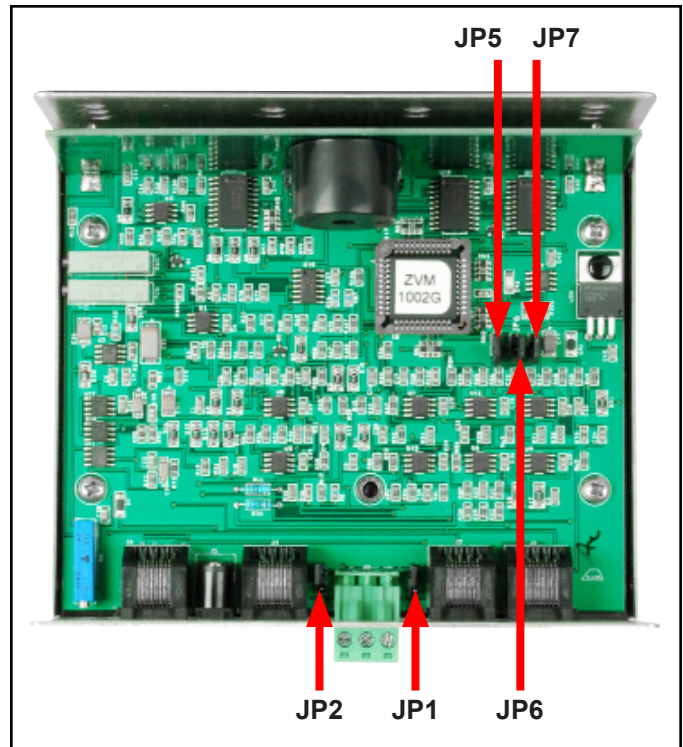

Figure 5. Jumper locations
1. If the desired resistance is 3.5M, jumpers JP1 (MAT 1) and JP2 (MAT 2) need to be on one pin (see Figure 5).
1. If the desired resistance is 10k - 3.5M, jumpers JP1 (MAT 1) and JP2 (MAT 2) need to be on one pin (see Figure 5).
1. If the desired resistance is < 1k, jumpers JP1 (MAT 1) and JP2 (MAT 2) need to be on both pins (see Figure 5).